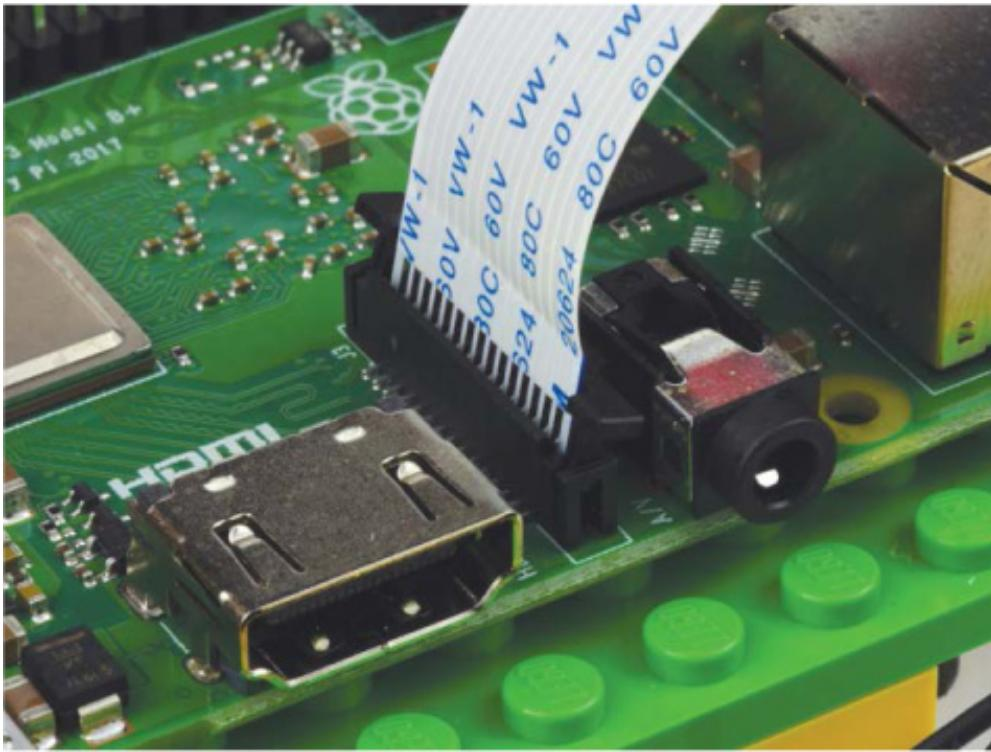

FIGURE 8-5 CSI port with the Camera Module’s ribbon cable inserted in the correct direction
3. Insert the ribbon cable on your Camera Module all the way into the CSI port with the silver contacts facing *away* from the 3.5 mm audio jack and Ethernet port (see Figure 8-5). This orientation is critical: if you insert the Module's cable the other way around, it won't be connected properly and you will not be able to use it!